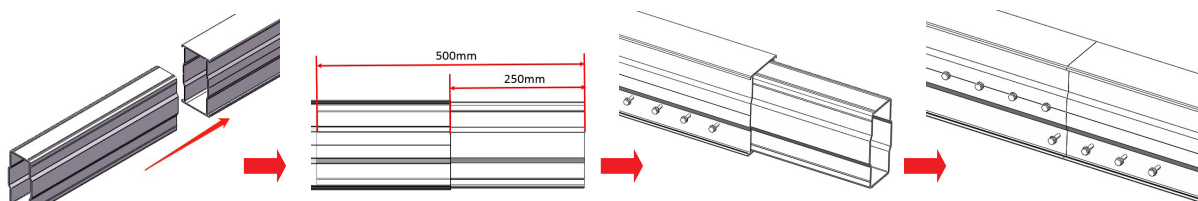

Figure. 11
5.2.1 In order to form a longer section, first insert Splice halfway into end of T-Rail 168, and fasten by self-drilling screws as shown in Figure 11.